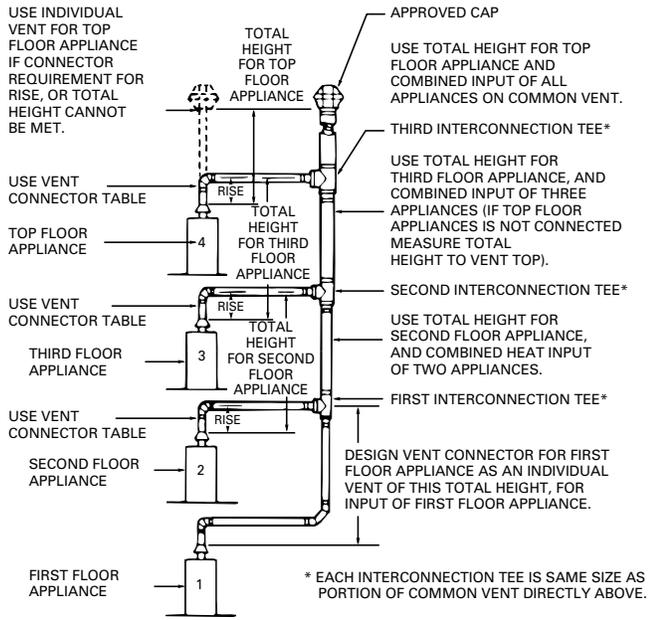

Figure 31
1. The overall system should be divided into smaller, vent systems for each level, each using a total vent height for each level as shown in Figure 31 on page 18. Principles of design of multistory vents using vent connector and common vent design table.
Example: Figure 31 shows a typical example of a multi-story vent system.
1. Assume Figure 31 represents a 4-story apartment.